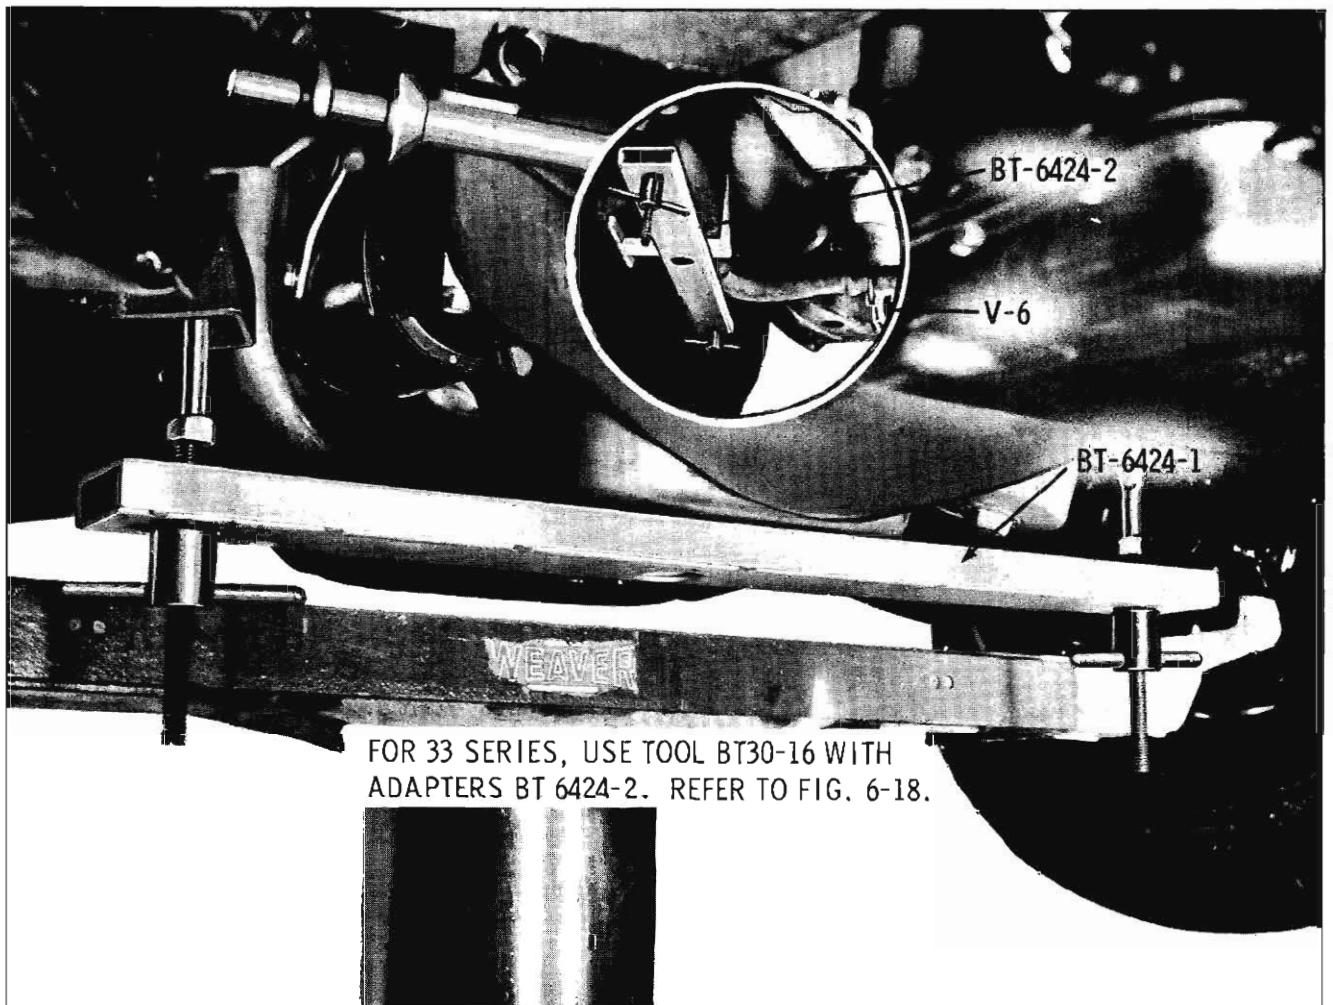

Fig. 3-456 Engine Support Tool BT-6424-1
1. Support engine with Tool BT-6424-1. (Fig. 3-456)